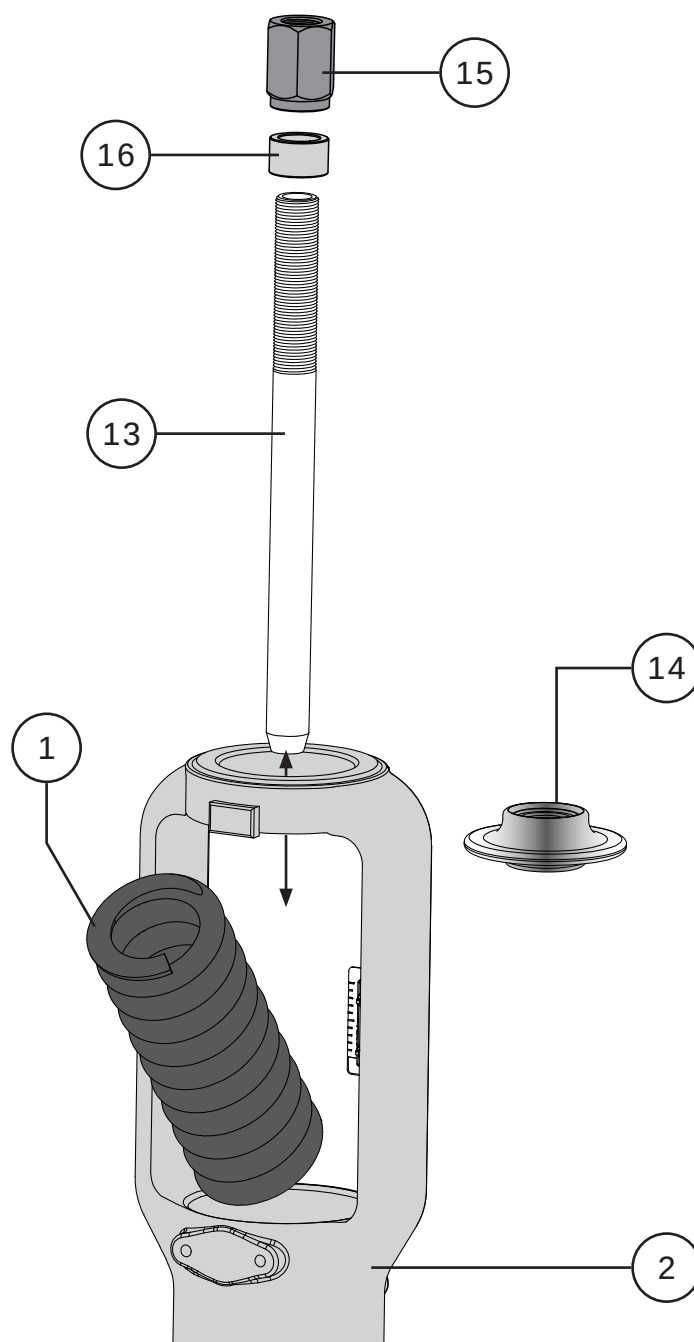

Figure 16 Upper Diaphragm Casing Disassembly Steps 7-10
- 7 Carefully flip the actuator upside down and remove the support block. Pull the actuator stem (Key 13) up out of the bushing (Key 5) and out the bottom of the yoke (Key 2). Refer to Figures 16.
- 8 Remove the spring adjuster (Key 15) from the actuator stem (Key 13). Also, remove the spacer (Key 16) if included, refer to Figures 16 & 27.